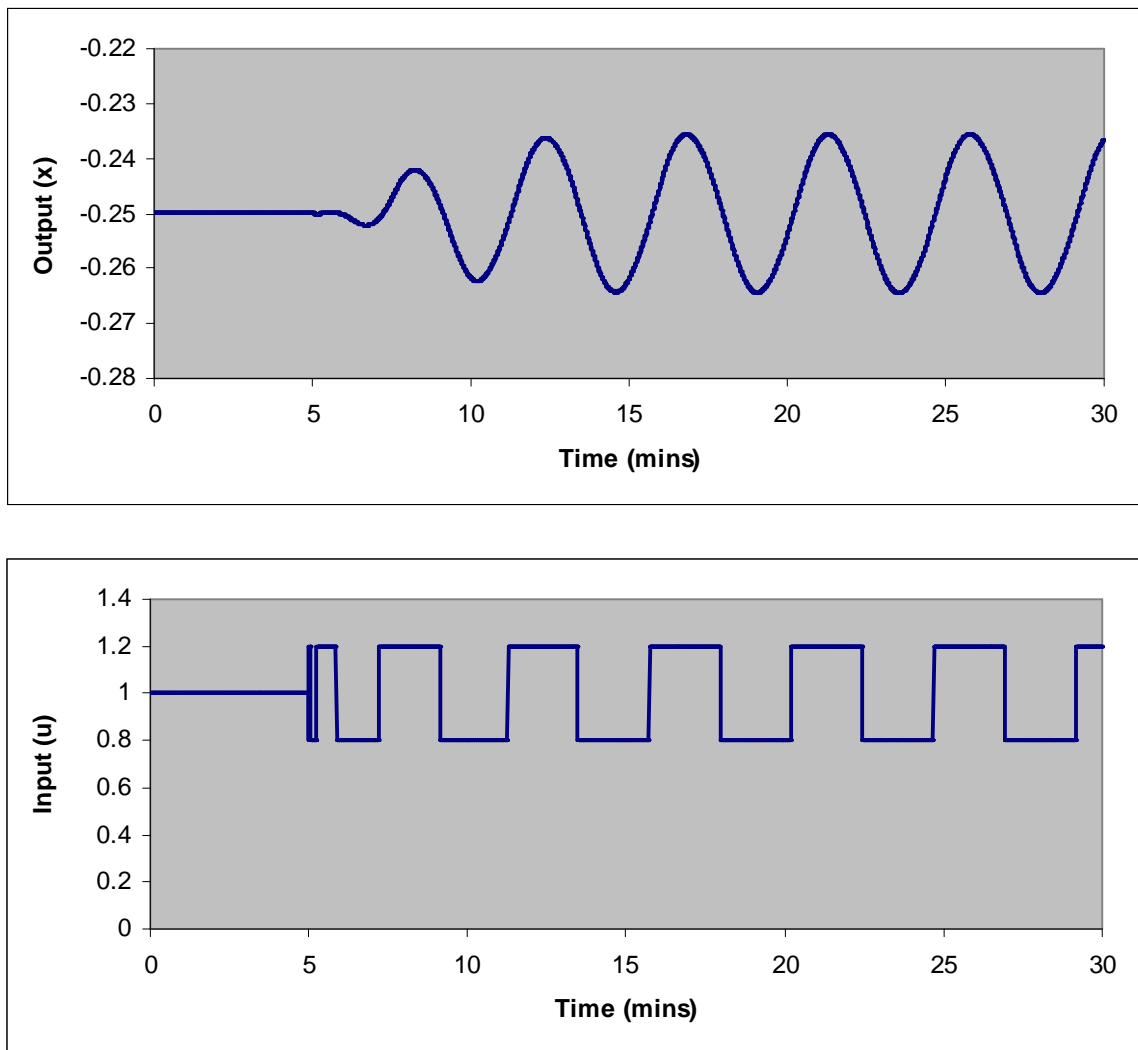

Figure 1.
1. (25 pts) An on-off control was design for a process with output (x) and input (u) and turned on after $t > 5$ mins. The plots of both output and input are shown in Figure 1 to be used for the autotuning method. From these plots determine the PID settings of K_c , τ_I and τ_D . (Note: the process has negative process gain.)